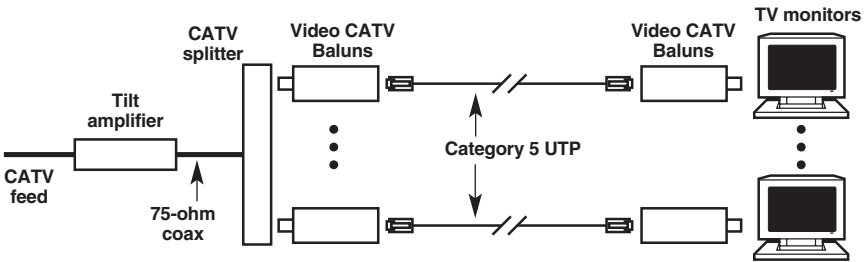

Figure 3-2. Baluns cabled together for video distribution (not to scale).
7. Plug the other end of each UTP cable into the appropriate modular wall outlet or patch panel. When this is done, a complete cabling circuit should run between the two baluns, as shown in Figures 3-2 and 3-3.